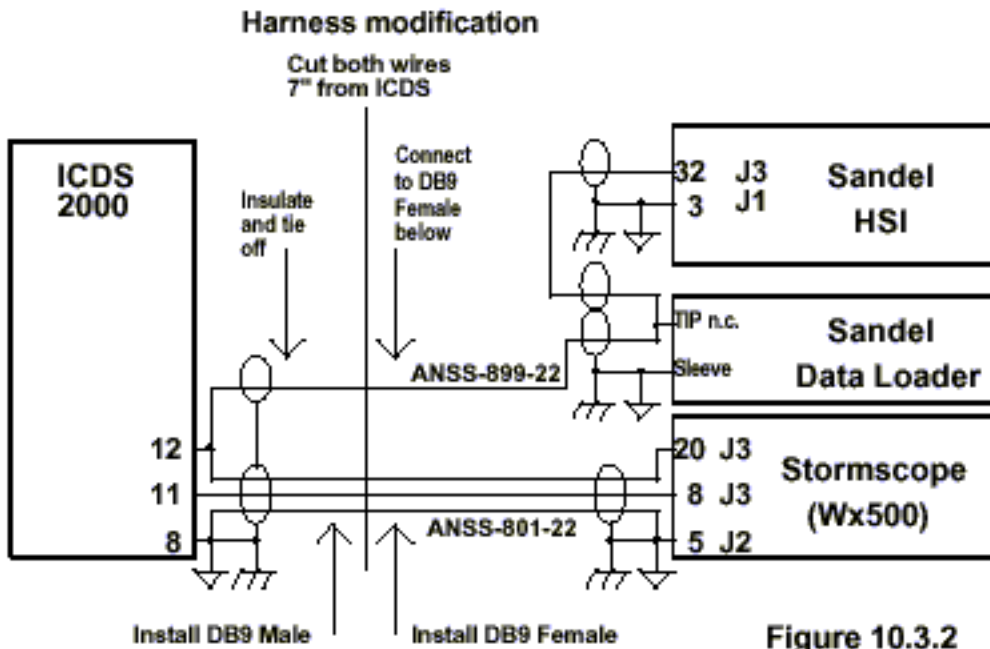

Figure 10.3.2
9. Install the supplied DB9 female connector to the wire leading to the Stormscope by connecting DB9 Pin-3 to Stormscope J3 Pin-8 (the same wire color code as ICDS 2000 Pin-11); Using the supplied splices, connect DB9 Pin-2 to Stormscope J3 Pin-20 (the same wire color code as ICDS 2000 Pin-12) and to the single conductor from the Sandel Data Loader phone jack from step 5 above; Using the supplied splices, connect DB9 pin 5 to the shield terminations from the Stormscope and from the Sandel Data Loader single conductor and from the Stormscope J2 Pin-5 (same color code as ICDS 2000 Pin-8). (Refer to **Figure 10.3.2**)